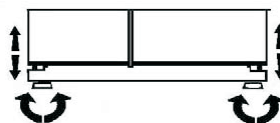

Fig.3
- Try some i.e. Open/close door to confirm the appliance will not move under normal .If the appliance moves, adjust the leveling feet again it is fixed and do not move (See fig.3).